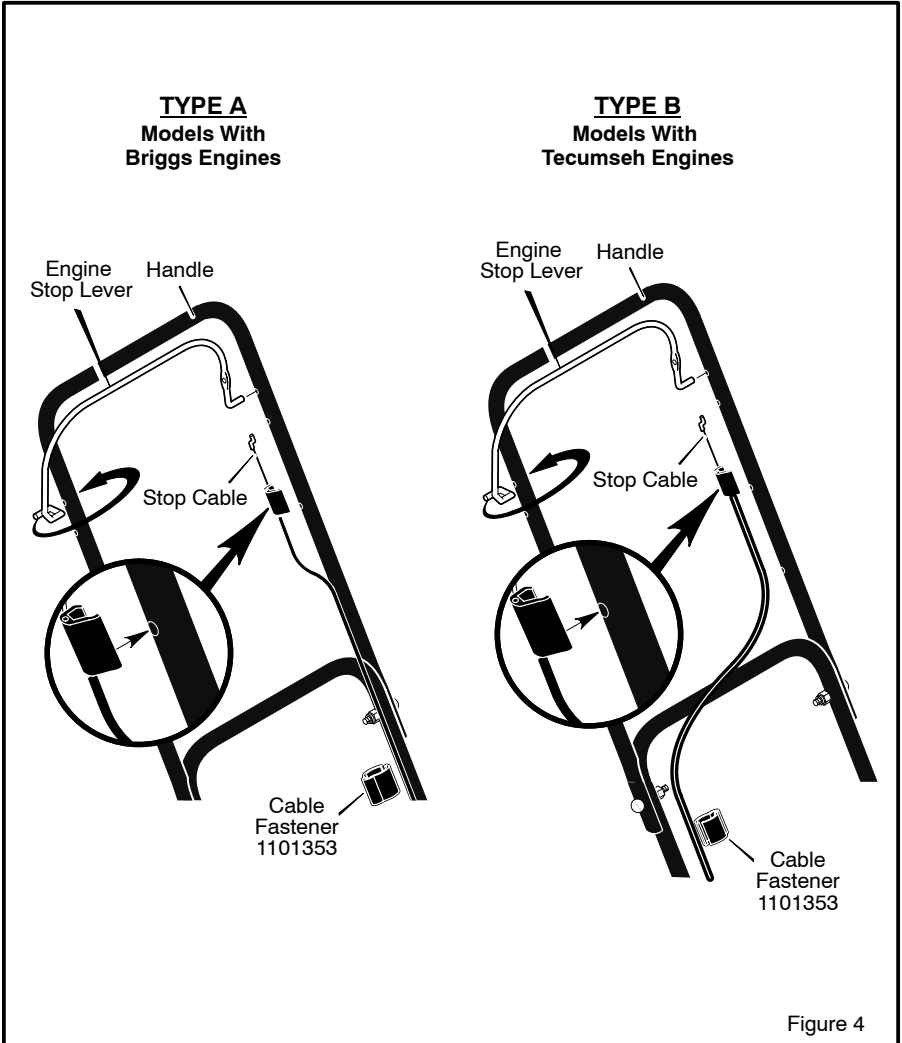

Figure 4
Two types of handles are shown in Figure 4. The engine on your model will determine which type of handle is on your model. **Type A** is for models with Briggs & Stratton engines. **Type B** is for models with Tecumseh engines.
2. Attach the **stop cable** to the **handle** as shown in Figure 4.
5. Attach the **cable** to the handle with the **cable fastener(s)** as shown in Figure 4.